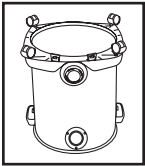

FIGURE 2
2. If the casters are not already installed in dolly, insert casters into bottom of dolly by placing stem of caster into holes provided. Apply pressure and twisting motion until casters snap into place. **FIGURE 2.**